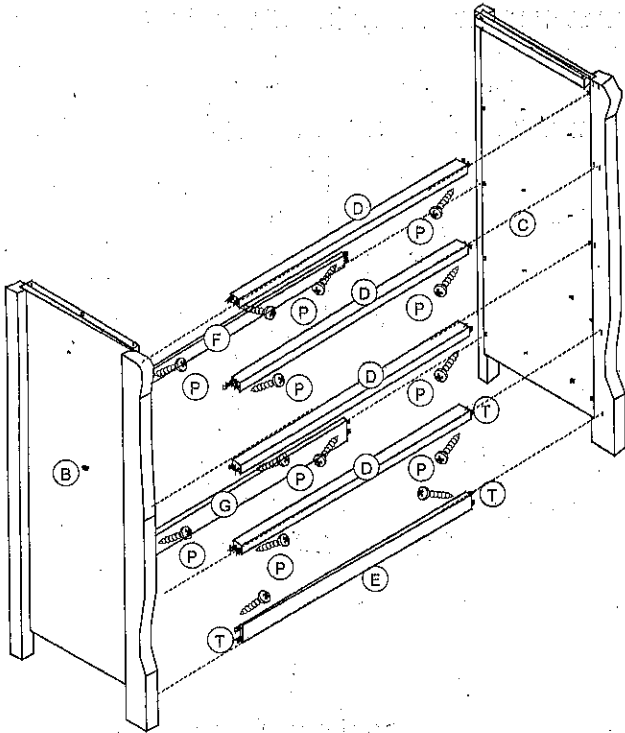

Figure 1
Use 14pcs 1 1/4" Wood Screw (P) & 28pcs Wood Dowel(T) to attach the Front Bar(D), the Front-down Bar(E), the Back-middle Bar(F) & the Back-down Bar(G) to the Left(B) & Right(C) Side Panels. As shown in **Figure 1**.